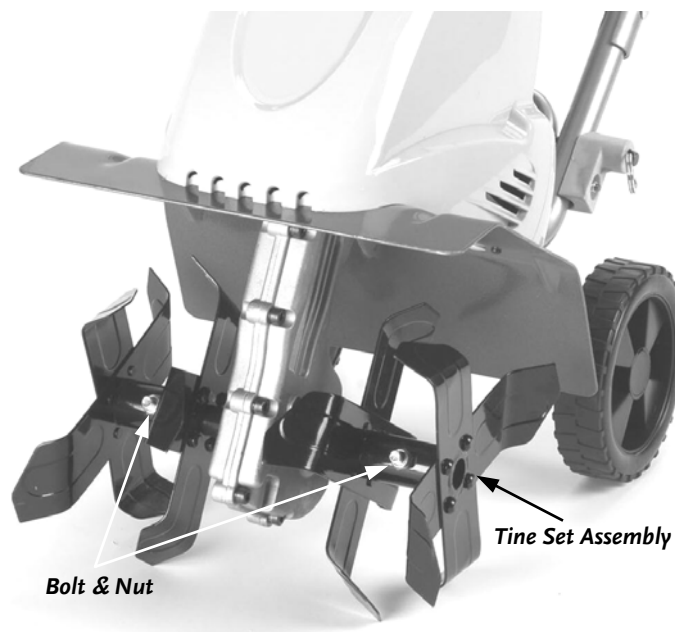

Figure 4
1. Remove the Bolt and Lock Nut from the Tine Set that you want to replace and slide the Tine Set from the Drive Shaft (**Figure 4**).